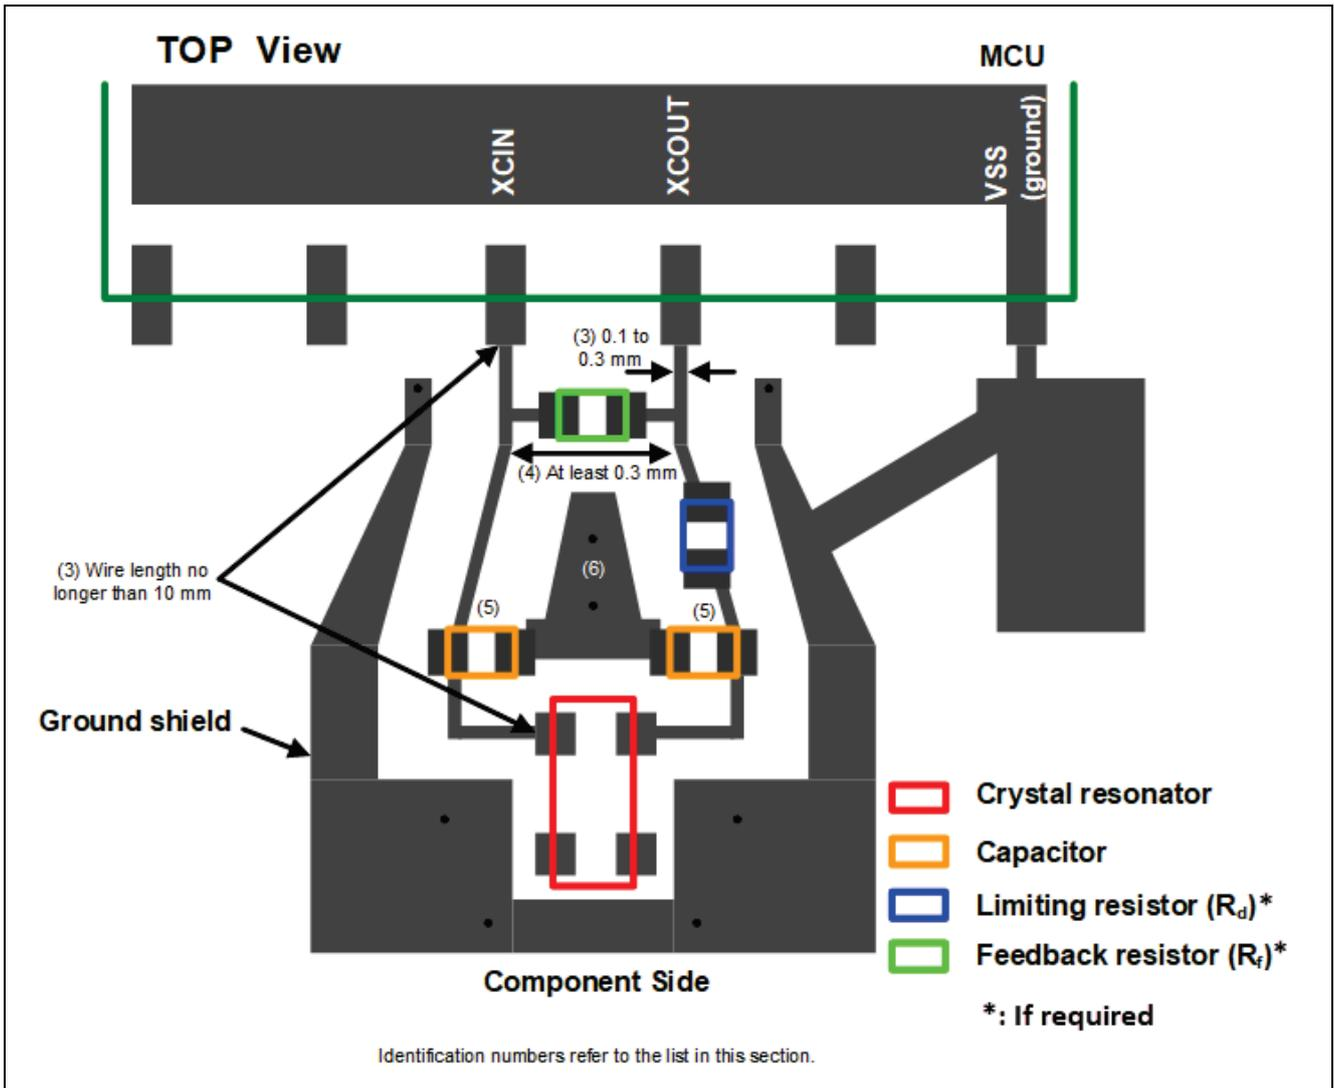
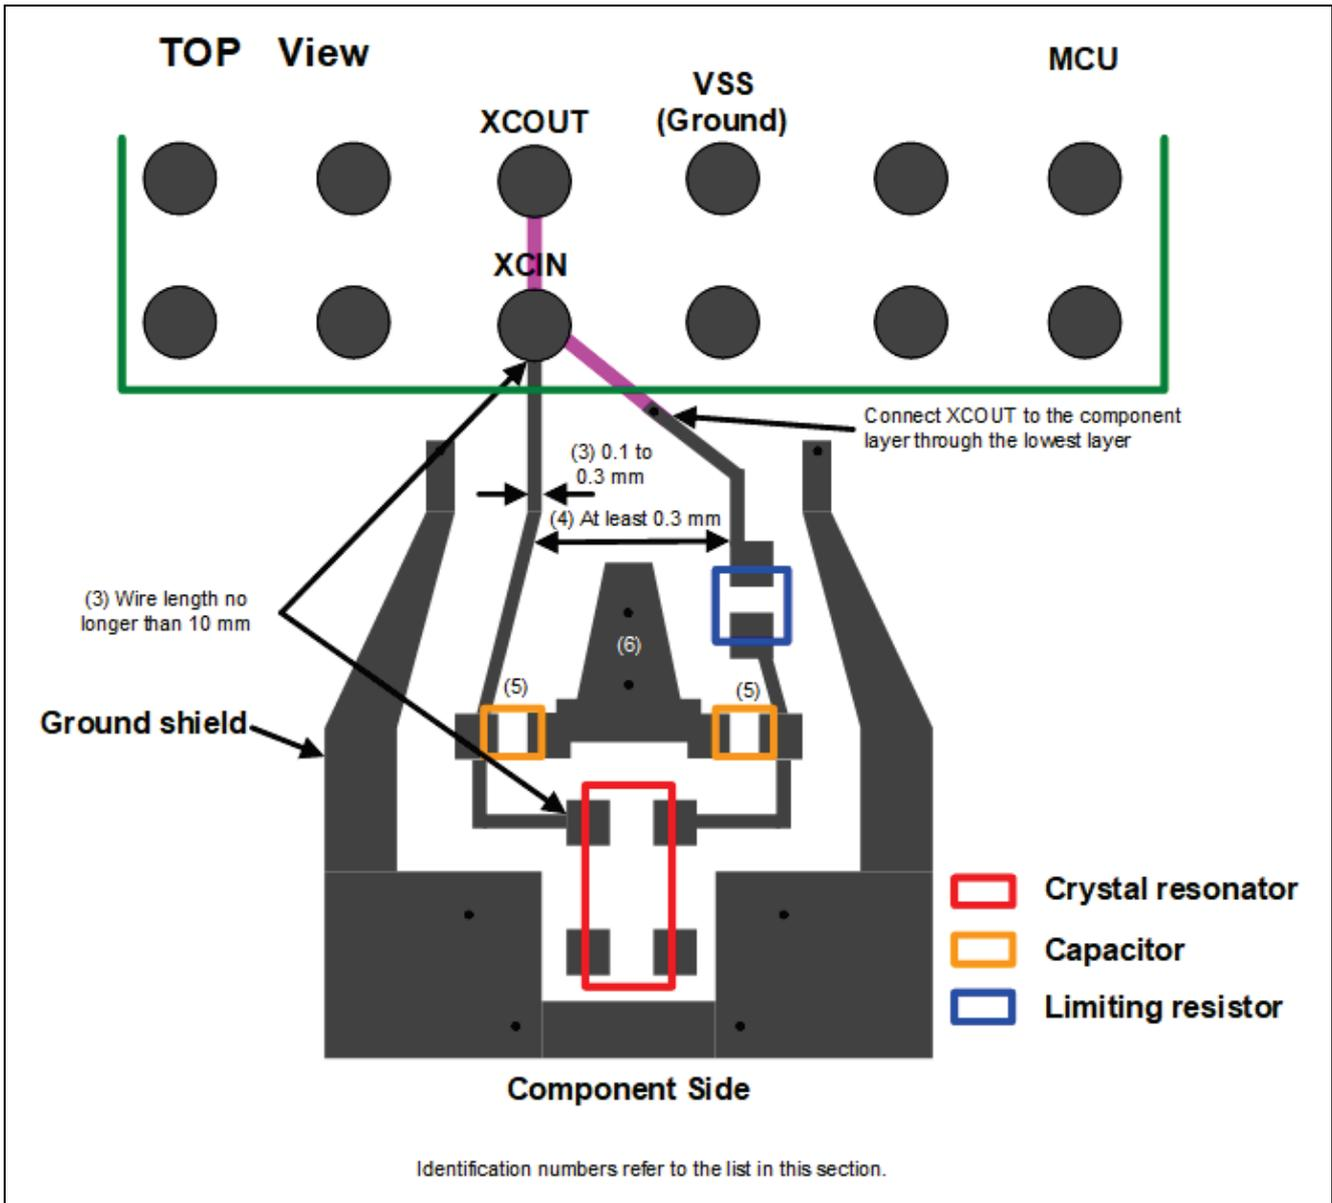
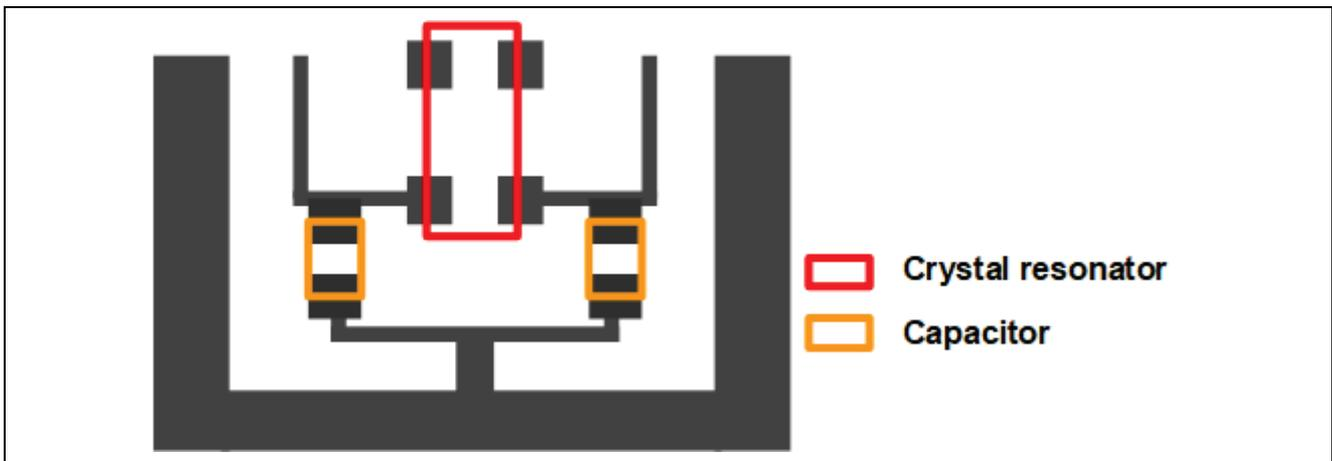

Figure 5. Example of Preferred Placement and Routing for XCIN and XCOU, LQFP Packages
Figure 7. Example of Preferred Placement and Routing for XCIN and XCOU, BGA Packages
Figure 8. Example of Alternate Placement and Routing for XCIN and XCOU
The following list describes points on routing for XCIN and XCOOUT. Figure 5, Figure 6, and Figure 7 show examples of preferred trace routing for XCIN and XCOOUT. Figure 8 shows an alternate example of trace routing for XCIN and XCOOUT. Identification numbers in the Figures refer to this list.
5. Connect external capacitors as close together as possible. Connect the traces for the capacitors to the ground trace (hereinafter referred to as the “ground shield”) on the component side. For details on the ground shield, refer to section 2.2.2. When the capacitors cannot be placed using the preferred placement, use the placement shown in Figure 8.